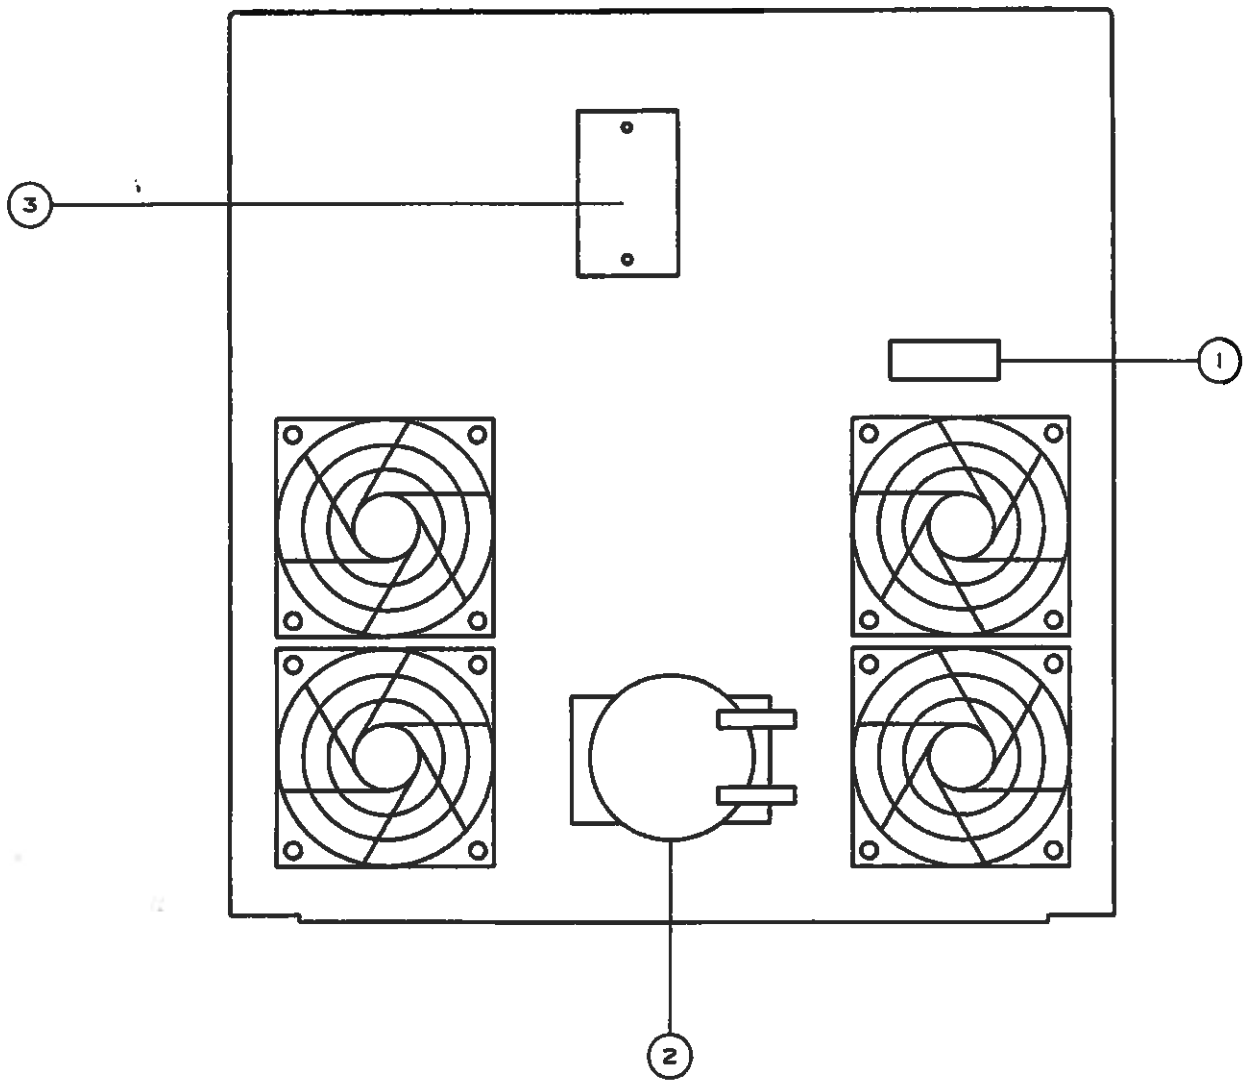

Figure 3-2 **Model G33 Rear-Panel Connectors**
The major controls for operating the Model G33 are located on the front panel of the instrument. These are illustrated in Figure 3-1. Figure 3-2 shows the location of rear panel controls and connectors.
The following descriptions are referenced to Figure 3-2.
4. Connect the LOW VOLTAGE SIGNAL CABLE, end marked "Conn. To G33", to the G33, via the LOW VOLTAGE INTERFACE COVER. See Section 3.3.2, Item 3, Figure 3-2.
7. Connect the SYSTEM AC POWER and the SURGE LINE INPUT to the G33. See Section 3.3.2, Items 1 and 2, and Figure 3-2.